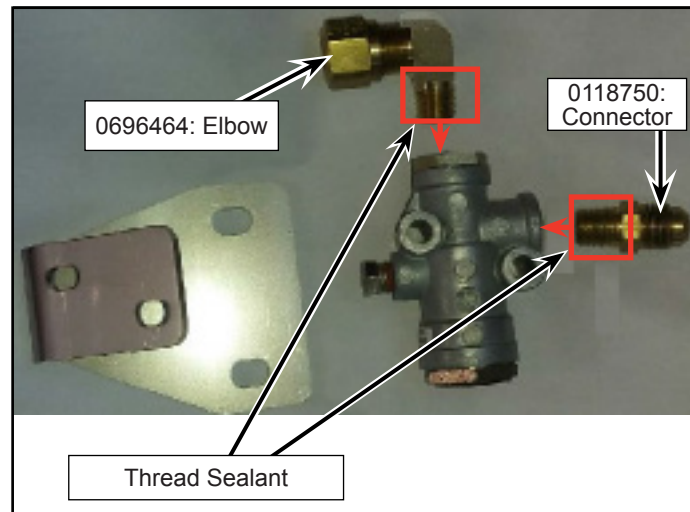

Figure 4 - Installation of Elbow and the Connector
- 1.8. Apply thread sealant on the threads of elbow and the connector as shown (see Figure 4).
- 1.9. Install both the elbow and the connector in the pressure regulator valve (see Figure 4).